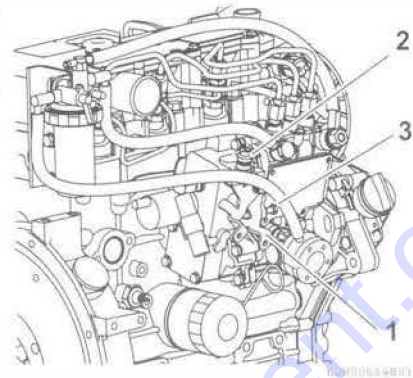

Figure 12
1. Check that the governor lever (1, **Figure 12**) makes firm contact with the high idle stop (2, **Figure 12**) and the low idle speed limit screw (3, **Figure 12**) when the engine speed control is in the full speed or low idle speed positions.